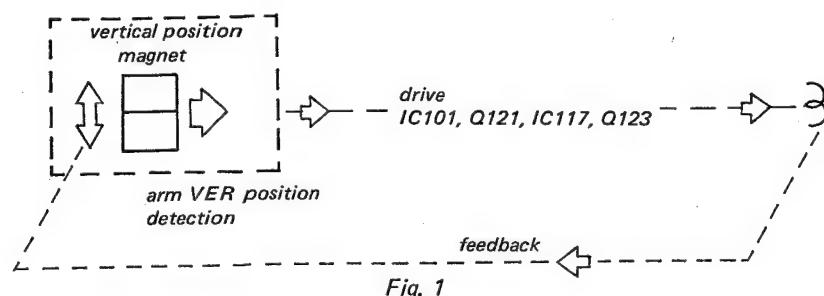

Fig. 1
- (1) Fig. 1 illustrates the servo amp which controls vertical movement of the tonearm.
- (2) The servo amp is composed of the following three blocks: drive circuit, feedback circuit, detection circuit.
- (3) The servo amp can be controlled from outside. In PS-X800, this characteristic is used to control the record player function in the following way.